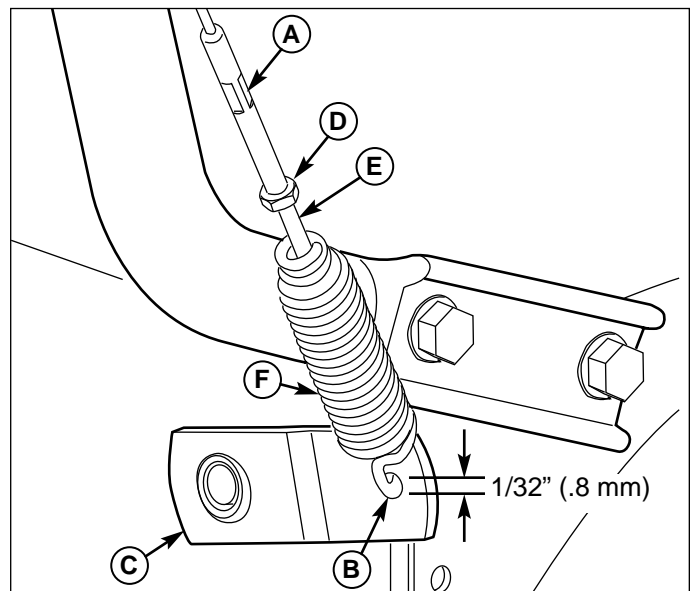

Figure 4. Auger Drive Adjustment
2. With the drive lever released, the hook (B, Figure 4) should barely touch the lever (C) without raising it. There can be a maximum 1/32" clearance as shown.
3. To adjust, loosen nut (D) by holding the adjusting flats (A) and turning nut (D). Turn adjustment flats and hold screw. The adjustment screw (E) is a phillips screw and the head can be held or turned by inserting a screwdriver through the spring (F).
4. Hold adjusting flats (A) and tighten nut (D).